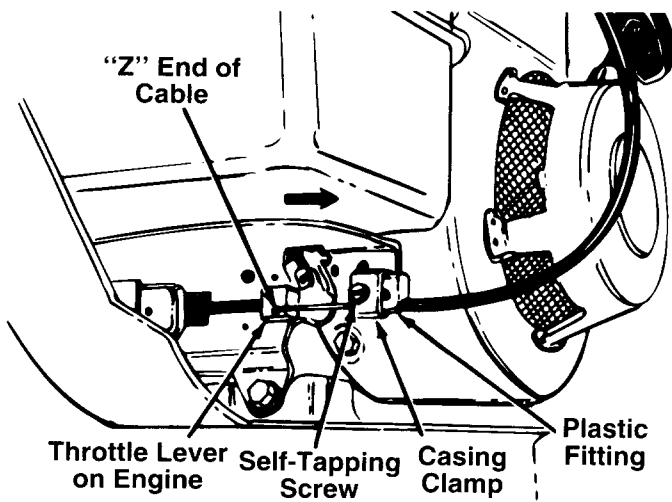

FIGURE 10.
17. Attach the throttle control cable to the throttle control lever on the engine as follows. See figure 10.
- e. Pull the throttle control cable so that the throttle lever on the engine is in the full open position (all the way toward the right side of the unit) as shown in figure 10. Tighten the self-tapping screw to secure the throttle control cable in this position.